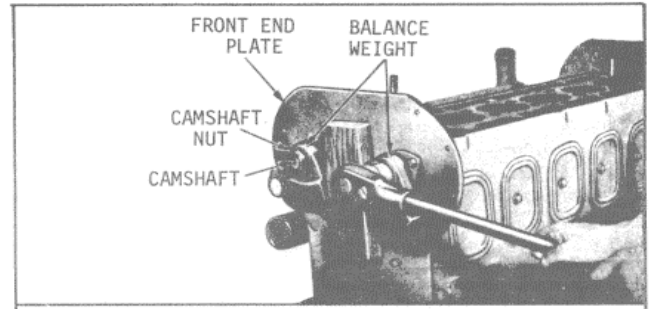

Fig. 2 Loosening Nut on Camshaft or Balance Shaft
- (1) Remove the balance weight cover.
- (2) Place a block of wood between the balance weights to prevent rotation (Fig. 2).
- (3) Loosen the balance weight retaining nuts on the camshaft and balance shaft with a 1-1/2" socket wrench and remove the nuts and internal tooth lockwashers.
- (4) Force the balance weight off the end of each shaft with two heavy screwdrivers or